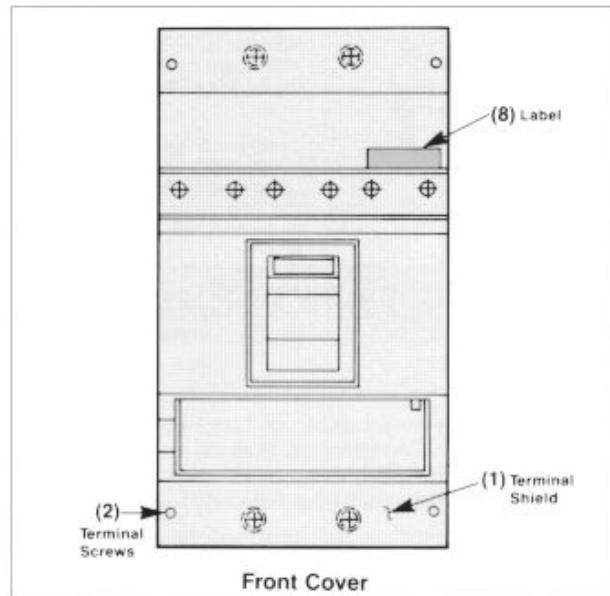
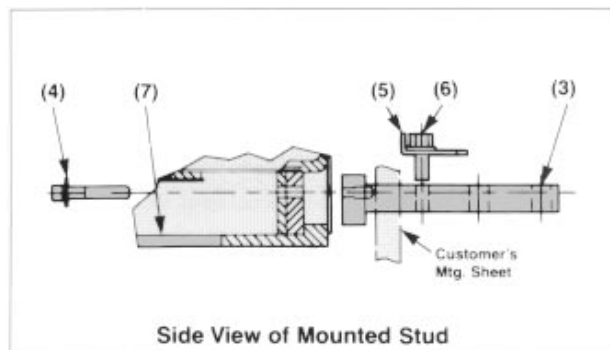

Figure 3
Figure 4
- Remove terminal shield (1) from line and load side of breaker frame. Two #8-32 screws (2) each (Figure 3).
- Attach the connecting studs (3) as shown in Figure 4, to each pole of the circuit breaker with two 5/8-18 hex head cap screws, flatwashers and lockwashers (4). Torque the screws to 72 lb. in.
- Secure the circuit breaker to the panel by attaching each connecting stud with the panel clamp, (5) (Figure 4) hex head bolt, lockwasher and flatwasher (6) supplied. Torque the bolts to 96 in. lb.
- After the breaker is installed, attached to the mounting panel and terminated, retorque each of the 5/8-18 hex head cap screws (4) (Figure 4) to 72 in. lb.
- Insert the end shields (7) into the slots provided at the line and load ends of the breaker (Figure 4).
- Replace the breaker terminal shields (1) on the line and load side of the circuit breaker and secure with four breaker terminal shield screws (2). Tighten to 12 in. lb.
- Affix label (this device is equipped with rear connecting studs) (8J) to the front of the circuit breaker (Figure 3).
- Attach the rear connecting studs to the mounting template using the 5/16-18 hex head cap screws (4) provided (Figure 4). Note that the rear strap mounting pads are not symmetrical. The studs must be mounted with the orientation (Figure 4).
- Secure the assembly to the panel by attaching each connecting stud with the panel clamp (5) hex head bolt, lockwasher and flat washer (6) supplied. Torque to 96 in. lb. (Figure 4).